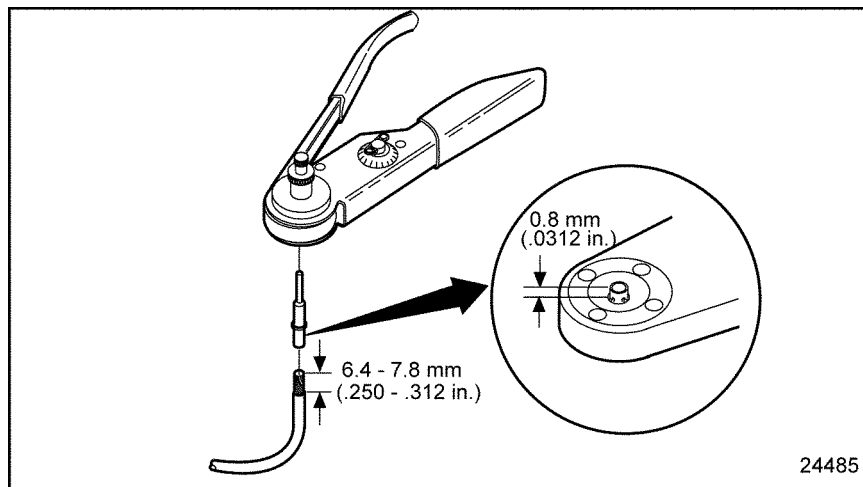

Figure 16-27 **Setting Wire Gage Selector and Positioning the Terminal**
- Position the terminal so that the crimp barrel is $\frac{1}{32}$ of an inch above the four indenters. See Figure 16-27. Crimp the wire.